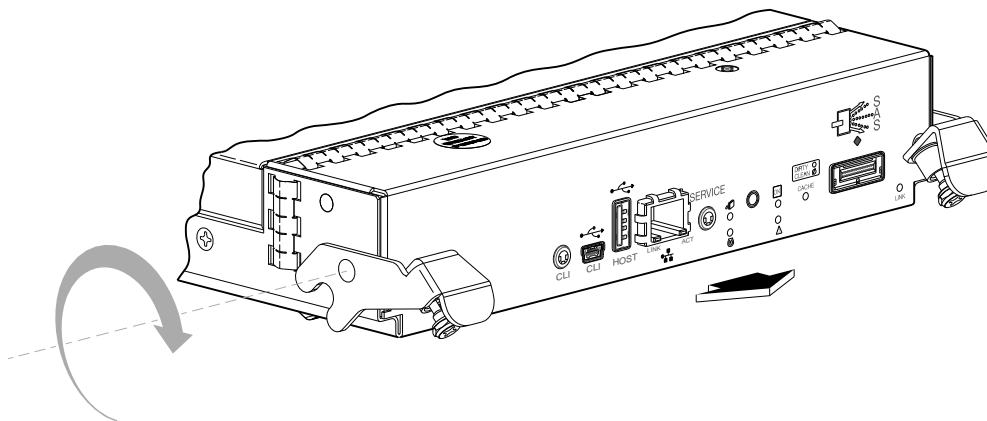

Figure 18 Extracting a controller module
5. Press both latches downward to disconnect the controller module from the midplane (see Figure 18).